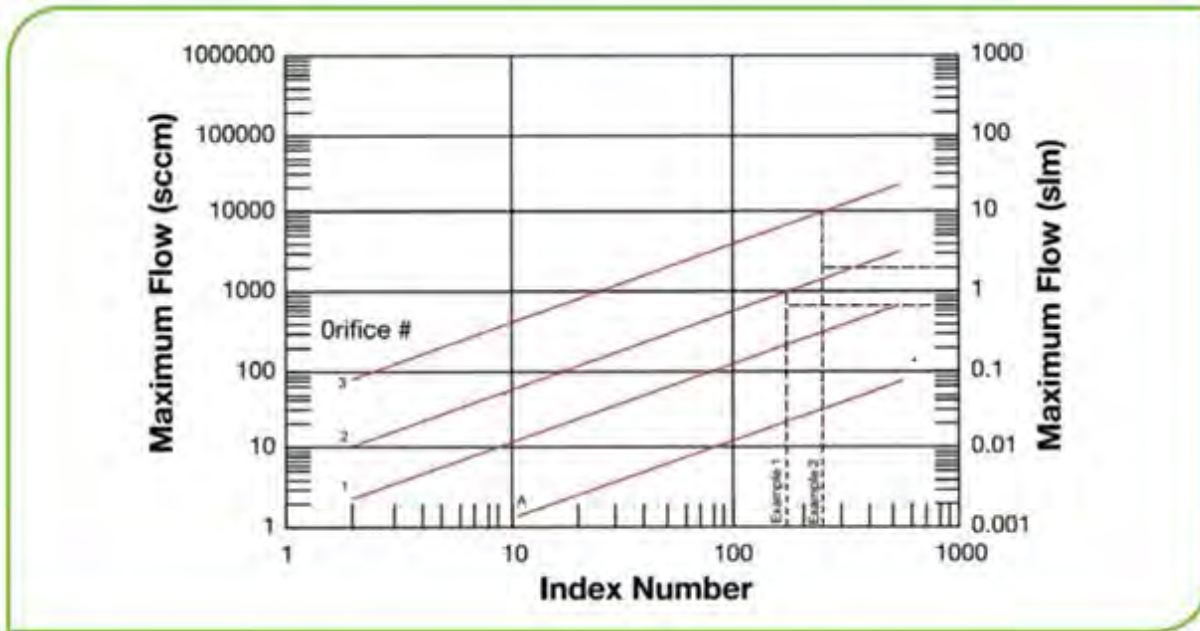

Figure 15 - Valve Orifice Index Number
3. Go to the Orifice Selection Graph (Figure 15) and locate your Index Number along the bottom axis. Draw a vertical line at your Index Number. This line will intersect with the Max. Flow Rate lines for available valve orifices. Choose the orifice whose maximum flow rate exceeds your requirements.